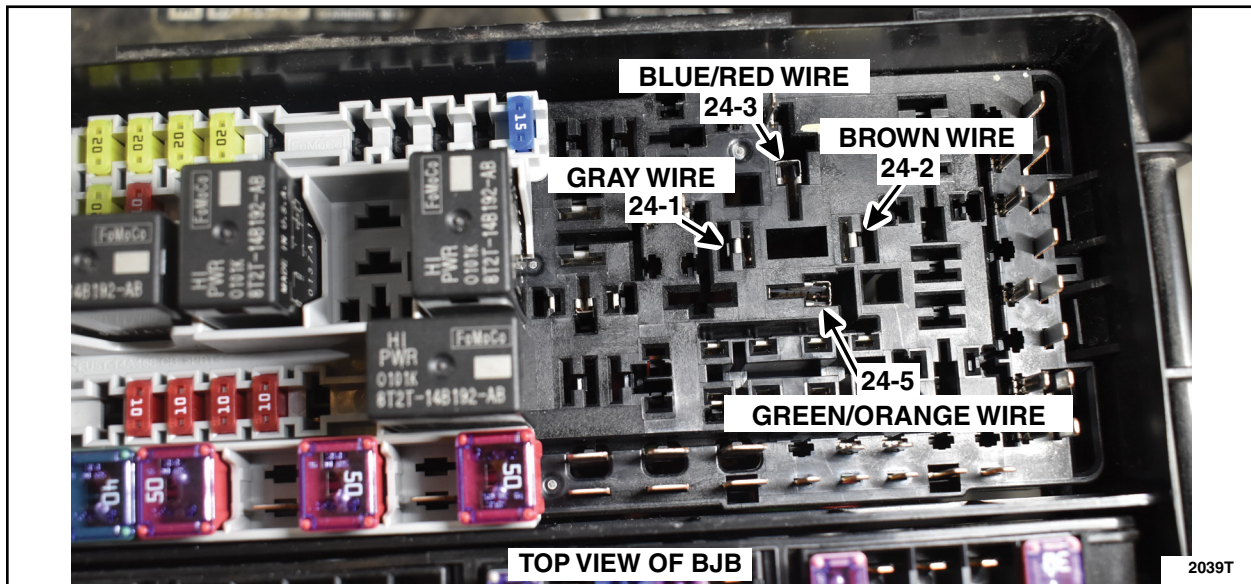

FIGURE 14
10. Install the four (4) wires, removed from the original relay with *new* terminal ends, into the *new* relay R24 cavities as noted below. See Figures 14 and 15.